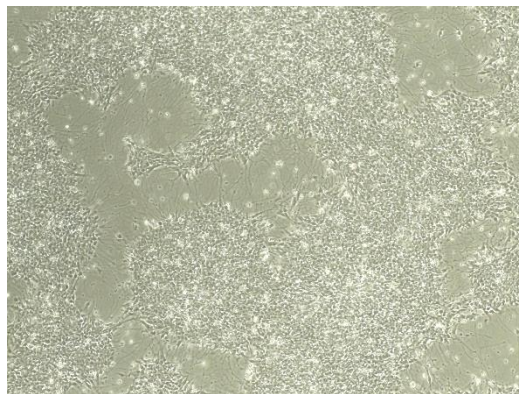

Figure 5. Bright-field phase-contrast of NCRM1 MNPs 6 days after plating in motor step 3 media.
13. Six days after plating in motor step 3 medium (day 18 of protocol), cells should be 70% to 90% confluent and start to pile up (Figure 5). Proceed directly to motor neuron differentiation (section 3.4) or split and/or freeze MNPCs in FBS containing 10% DMSO.